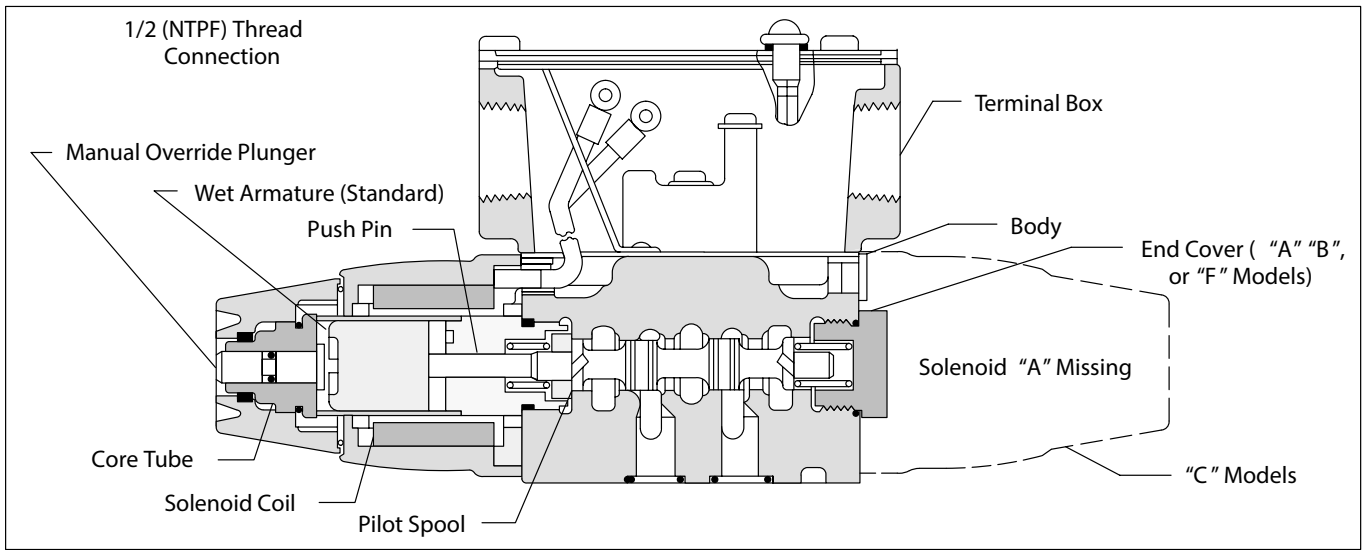

Figure 13a. DG4V-3-40 Pilot Valve, Sectional View
180° from the position shown in Figure 13a. Wire grounding screws are provided for convenience.
g. Manual Override : Each solenoid (electrical or air type) has a manual override plunger to shift the pilot spool. This feature allows a technician to shift the pilot spool when electricity or air pressure is not available. Refer to Figures 13a, 13b or 13c. To operate the manual override feature, obtain a small rod and push in on the plunger.